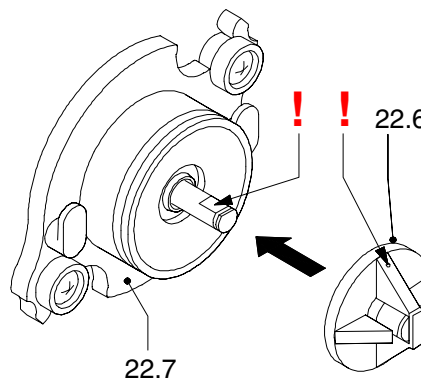

Fig. 5 Mounting the mixer
- At mounting the mixer in the mixer motor shaft the dot (fig.5 ) must be in line with the flattened part of the mixer motor shaft.